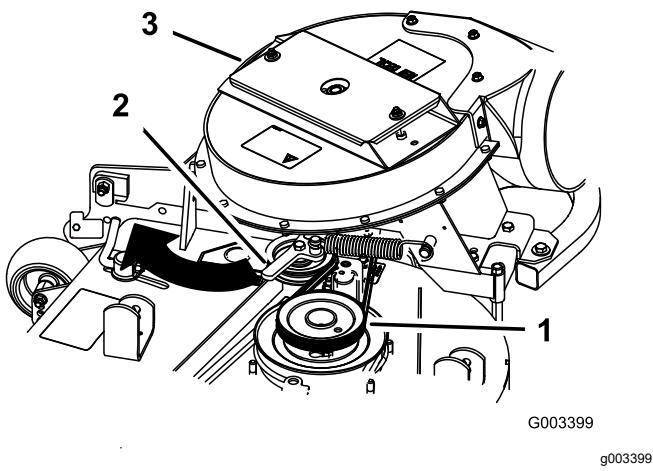

Figure 20
- Pull the spring-loaded idler pulley back and route the belt around the mower-deck pulley (Figure 20).